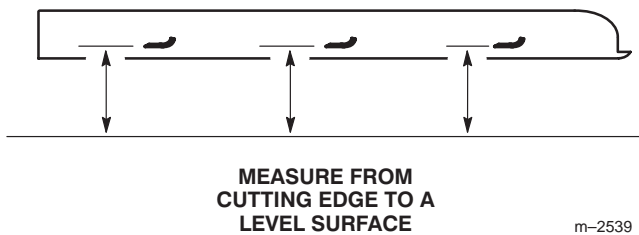

Figure 15
2. Measure from a level surface to the cutting edge of the blades (Fig. 15). Note this dimension.